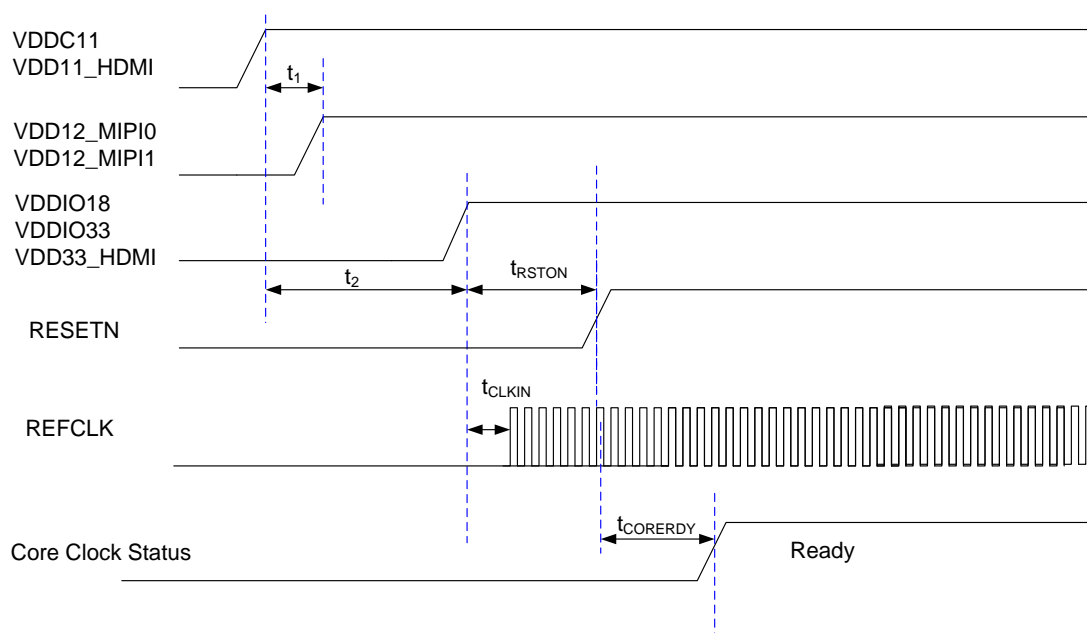

Figure 4.1 Power On Sequence
2. For voltage source, it is desired to turn on core power (1.1V) source first, then Analog PHY and IO (1.8V) power as shown in Figure 4.1.
4. The timing parameters for Figure 4.1 are tabulated in Table 4.2.